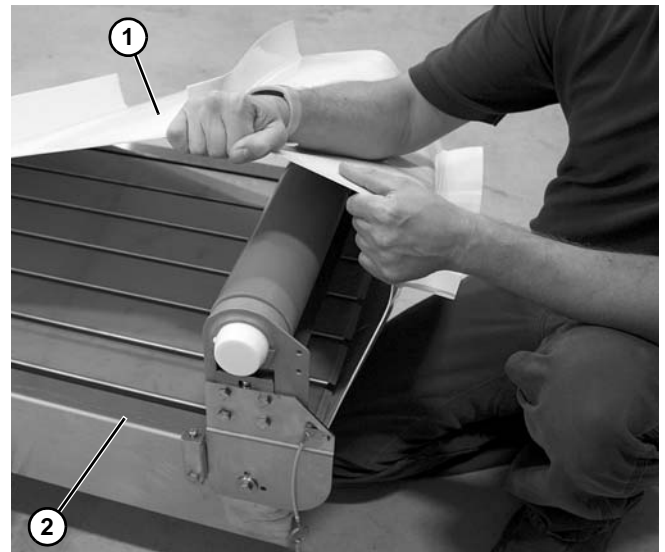

Figure 44
6. Remove the belt (**Figure 44, item 1**) from the conveyor (**Figure 44, item 2**).